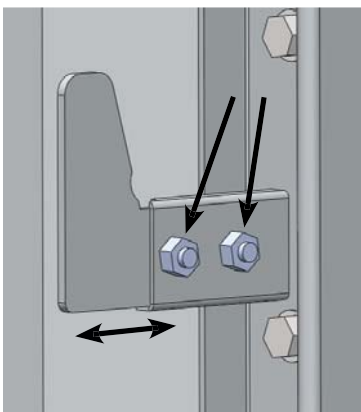

Fig. 28
To check the gasket further, insert a piece of paper (a dollar bill will work) into the door opening and close and latch the door. Obvious resistance should be felt when pulling the paper out. Repeat this check several times around the perimeter of the door. Loading door gasket tightening instructions can be found below under point 8 and **Fig. 28**. For bypass door adjusting see “ADJUSTING BYPASS HANDLE” on page 33
8. Door adjustment: the door seal is adjusted by moving the latch catch on the furnace in or out. To do this, undo the two bolts (see fig.28). The gasket should be just tight enough to test ok as in step 9, do not over tighten the latch which makes the door difficult to latch.